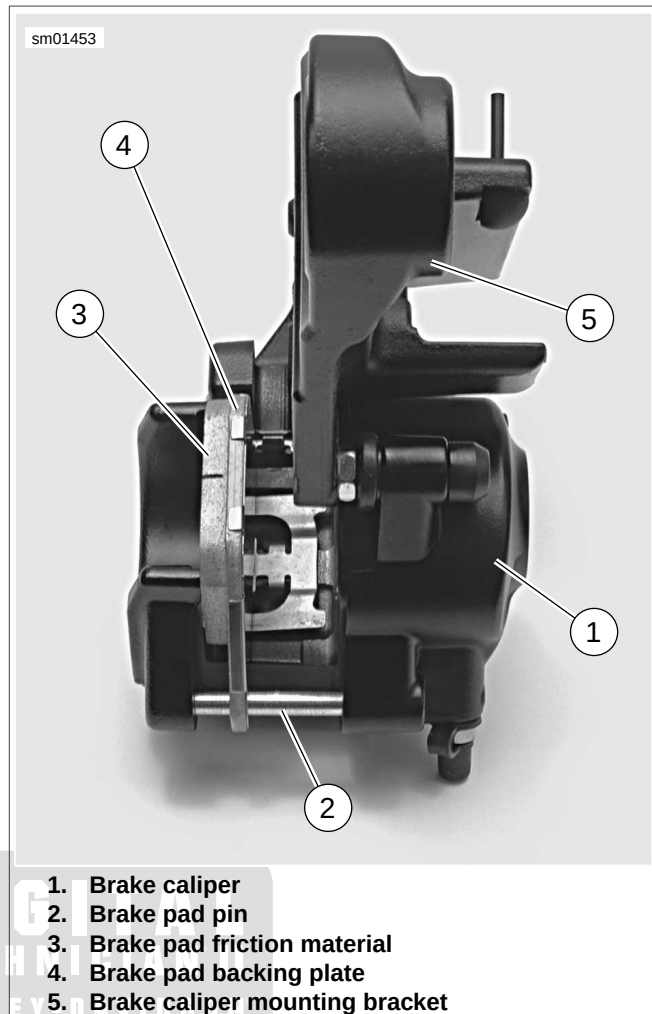

Figure 2-123. Preparing Caliper for Piston Removal
2. See Figure 2-123. Install a discarded brake pad in the caliper with the backing plate (4) facing the piston. Position the brake pad so the friction material (3) is against the back of the caliper, as shown.
3. Loosely install brake pad pin (2) to hold brake pad in place.